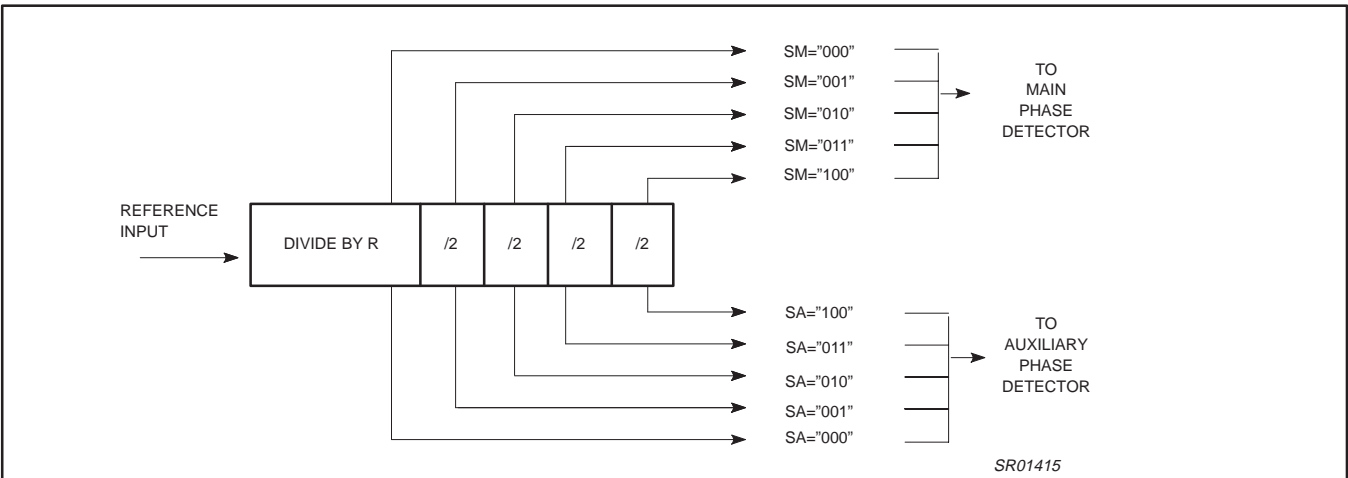

Figure 5. Reference Divider
The reference divider consists of a divider with programmable values between 4 and 1023 followed by a three bit binary counter. The 3 bit SM (SA) register (see Figure 5) determines which of the 5 output pulses are selected as the main (auxiliary) phase detector input.